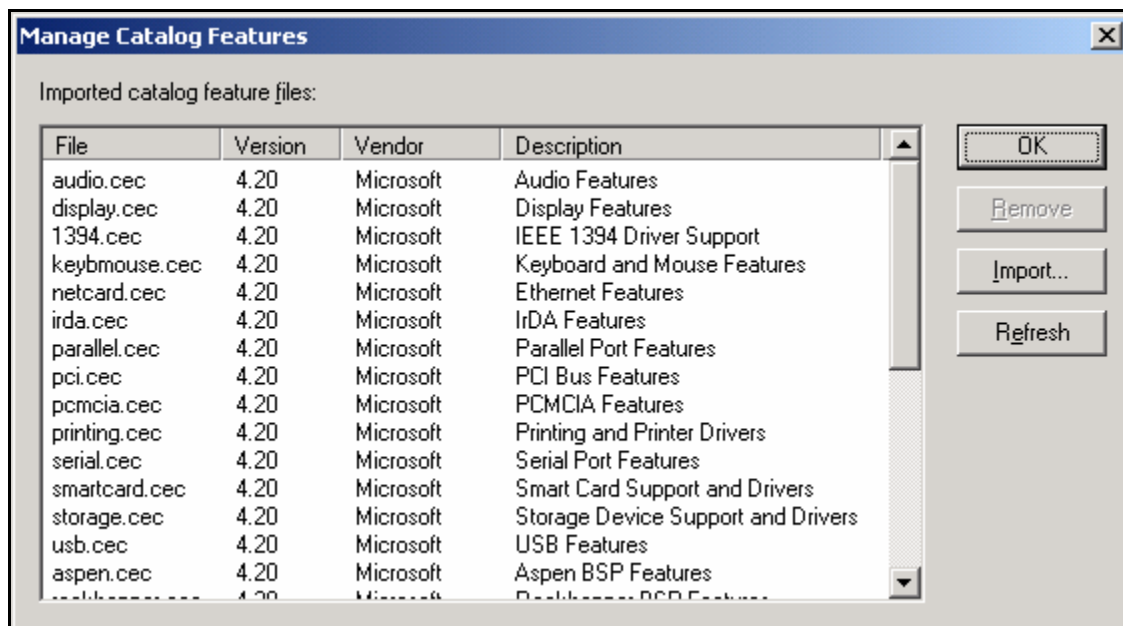
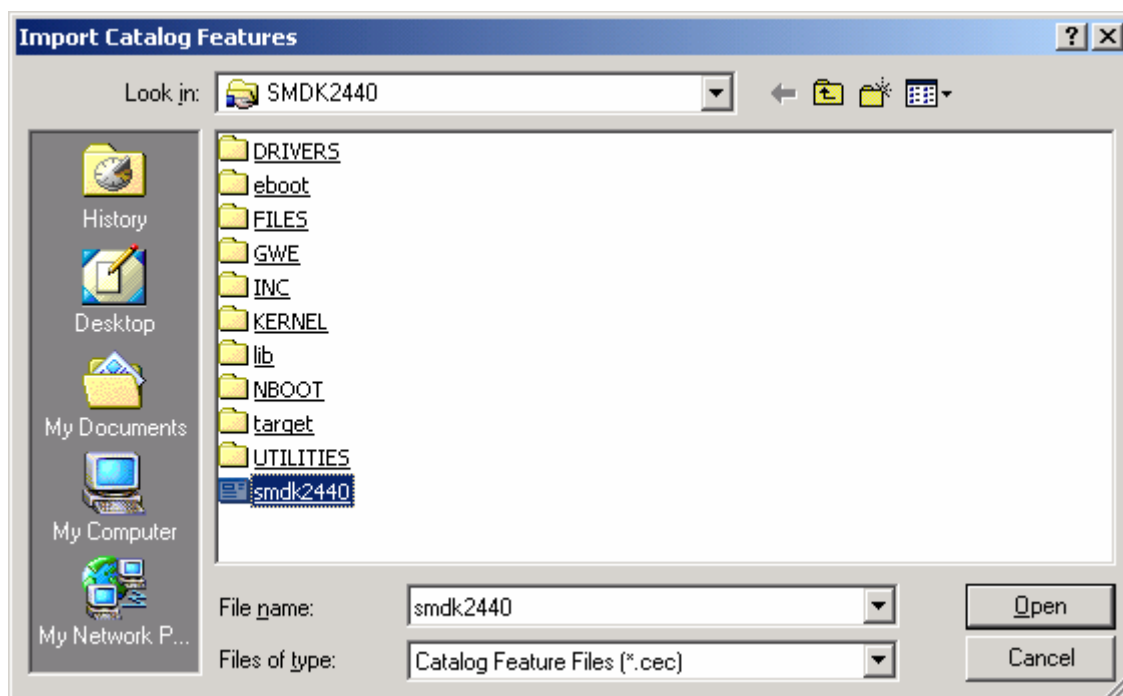

Figure 1-3 Manage Catalog Features Window
Figure 1-4 Import Catalog Features Window
4. Manage Catalog Features window will pop up on your screen as shown in the figure 1-3. Please click on the 'Import' button. The Import Catalog Features window will appear on your screen as shown in the figure 1-4. Select 'smdk2440.cec' file from the 'X:\WINCE420\PLATFORM\SMDK2440' directory and then click on the 'Open' button.